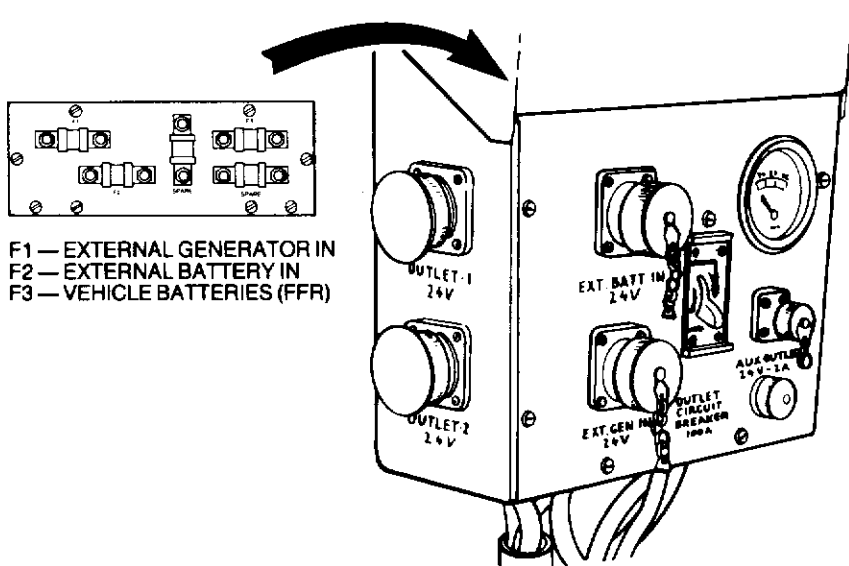

Figure 1-18 Distribution box
98. Distribution box (Fig. 1-18)